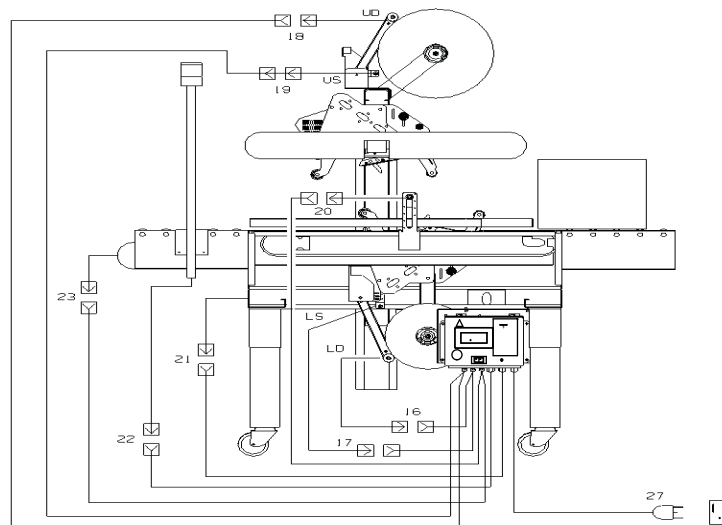

Figure 2-16
- 4) Attach the sensor guard (See **Figure 2-16**).
- 5) Connect the case sealer power cord to control box assembly and restore power (**See Figure 2-16**).